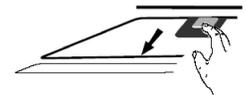

fig.6
2. In order to install the activated carbon filter, the grease filter should be detached first. Press the lock and pull it downward (see fig.6 below)